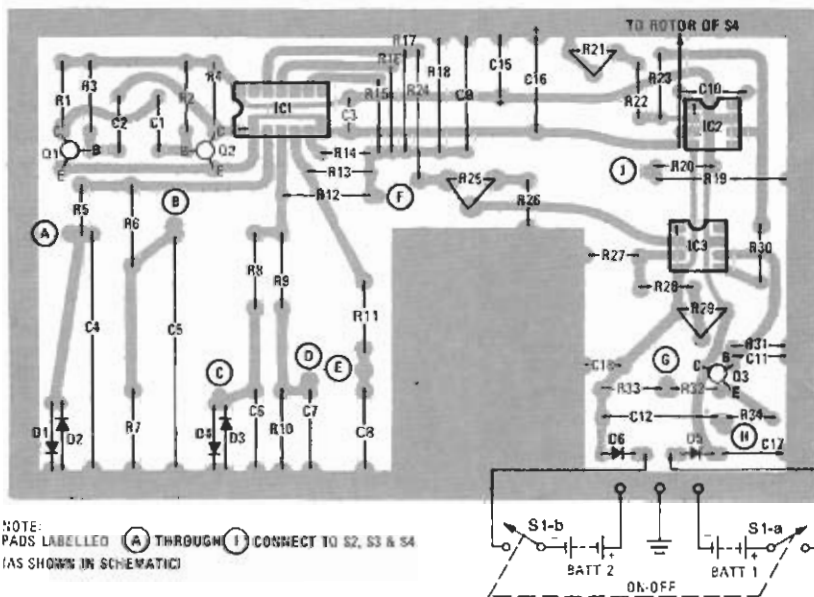

FIG. 4—COMPONENT PLACEMENT diagram for the PC board.
It is relatively easy to build the Optical Synthesizer, but you must be careful because any errors will be visible on the display. The safest procedure is to use a printed-circuit board. The foil pattern is shown in Fig. 3 and the component placement diagram is shown in Fig. 4. If you don't use a printed circuit board, it is important that you follow the layout shown in Fig. 4 as closely as possible.
**Construction.** Printed-circuit construction of the Imagician is recommended, and complete details of the board can be found in Figures 4 and 5. For the sake of shielding, an aluminum cabinet should be used to house the circuit. Furthermore, the chassis should be connected to system ground at some point. Connections between the Imagician and your oscilloscope should be effected by means of relatively short, (18-inches or less) shielded cables.